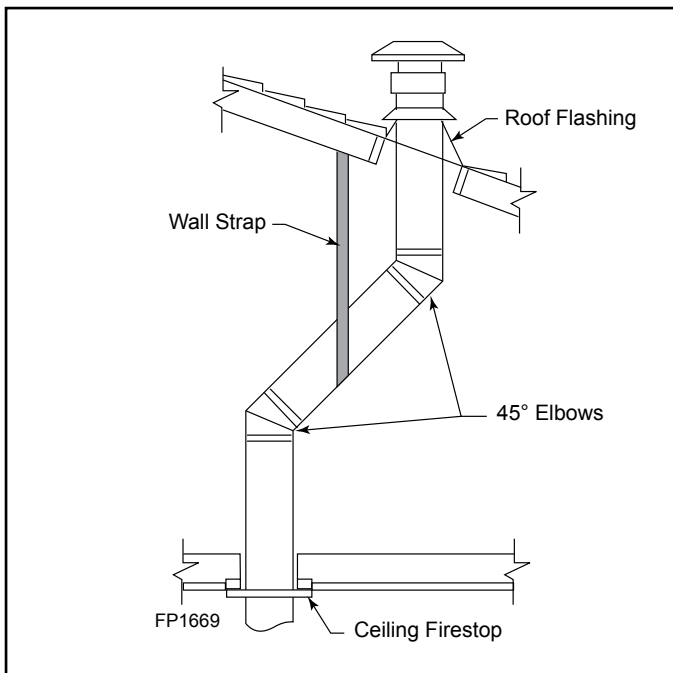
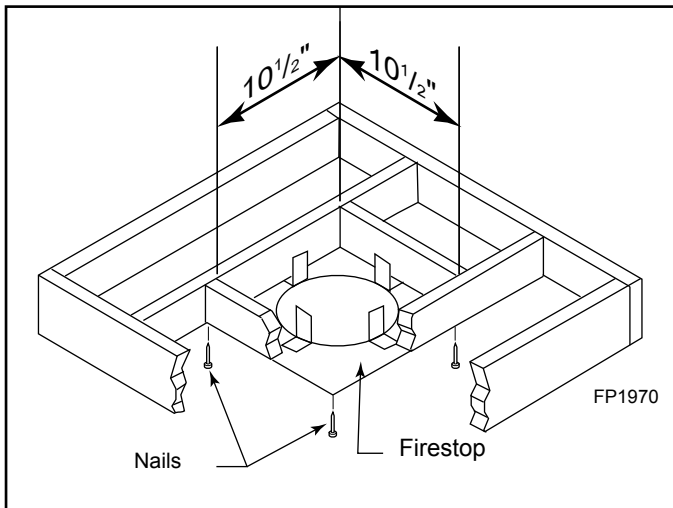

Figure 5.14 Offset with Wall Strap and 45° Elbows
Figure 5.16 If Area Above is Not a Room, Install Firestop above Framed Hole as Shown
1. Cut a 10½" (267 mm) square hole in the ceiling using the locating hole as a center point. The opening should be framed to 10½"x10½" (267 x 267 mm) inside dimensions as shown in Figure 5.16 using framing lumber the same size as the ceiling joist. If the area above the ceiling is an insulated ceiling or a room, nail firestop from the top side. This prevents loose insulation from falling into the required clearance space. See Figure 5.14. Otherwise, install firestop below the framed hole. See Figure 5.16